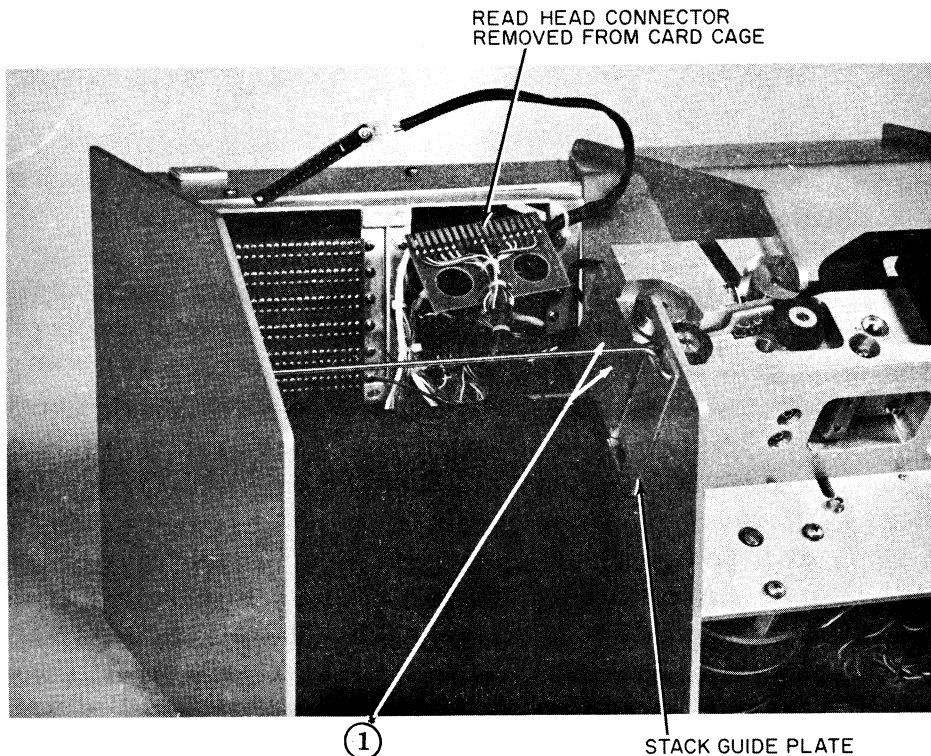

Figure 9-7. Partial Top Left View, Cover Removed
- b. Lift cover sufficiently to disconnect control panel connector, figure 9-7, and remove cover.
- n. Disconnect read head connector from card cage, figure 9-7.
- c. Disconnect read head connector from card cage, figure 9-7.
2. Using a flat blade knife, remove stack guide plate, figure 9-7.
5. Connect read head connector to card cage, figure 9-7.